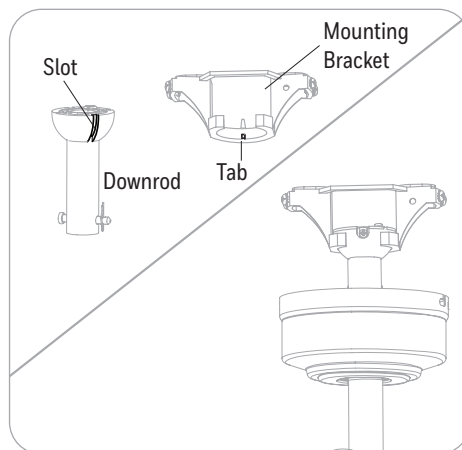

Figure 3.5
5. Install the ball end of the downrod into the opening of the mounting bracket. Rotate the downrod until the tab in the mounting bracket is seated in the slot in the downrod ball. **WARNING:** The fan and/or downrod should not rotate in the mounting bracket, if installed correctly. Failure to align the slot in the downrod ball with the tab on the mounting bracket may result in fan falling causing serious injury or death(Figure 3.5).